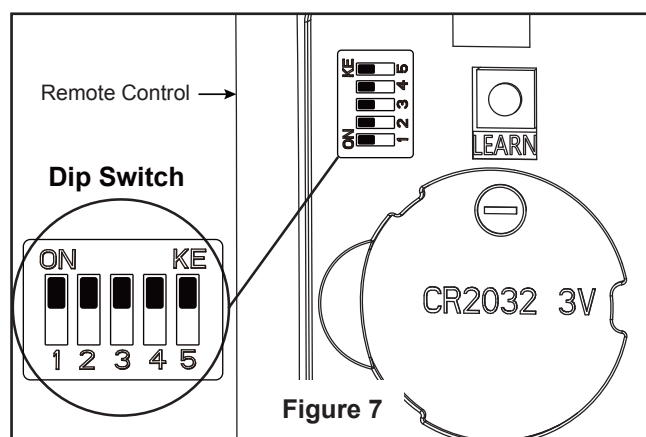

Figure 7
- ☐ **9.** To set the remote code in the same positions as the receiver, use a small screwdriver or ball point pen (neither included) to slide dip switches firmly up or down. (Figure 7)